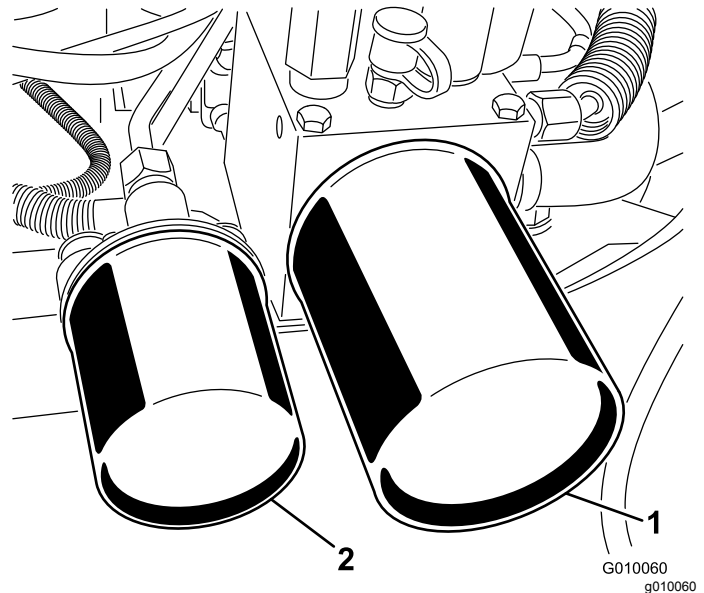

Figure 63
2. Place a drain pan under the filters, remove the old filters, and wipe the filter adapter gasket surface clean (Figure 63).